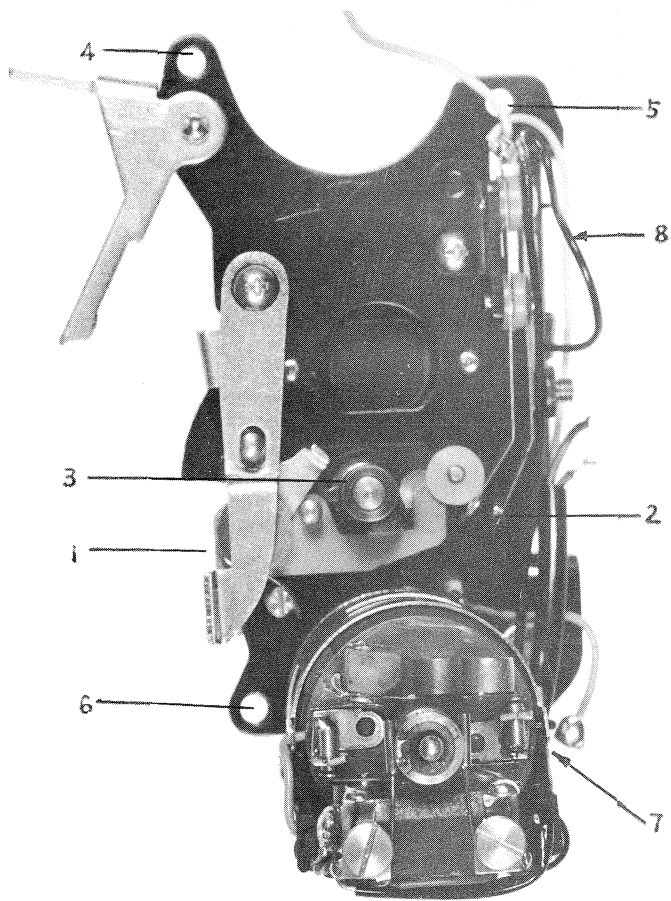

Fig. 15
- b-1. Inspect, adjust, remove, and replace the starting mechanism and switch (1 & 2 in Fig. 15).
- b-3. Remove and replace the shutter stopper (3 in Fig. 15).
- a-1. Remove the four screws located at positions 4, 5, 6 & 7 in Fig. 15.
- a-2. Remove the two leads (green & black) shown in Fig. 15 (8).